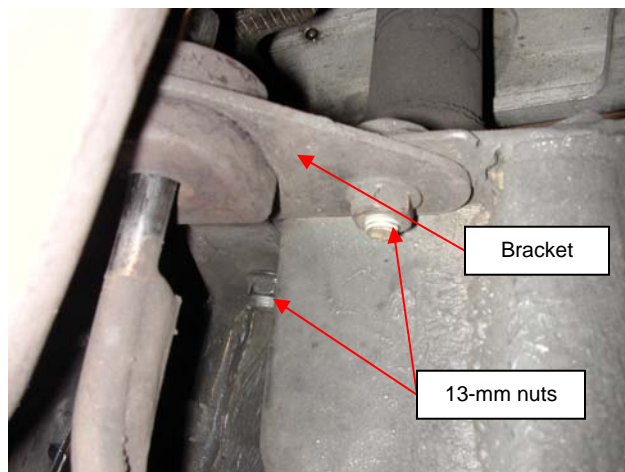

Fig. 2 Tail pipe support bracket (left side)
- a. Remove rear-muffler supports from both hangers using a 13-mm open-end wrench (see Fig. 2). Removing the brackets allowed more twisting and turning of the rear-catalyst outlet pipes during their removal, which was needed since the pipes had not been removed since the car was manufactured.